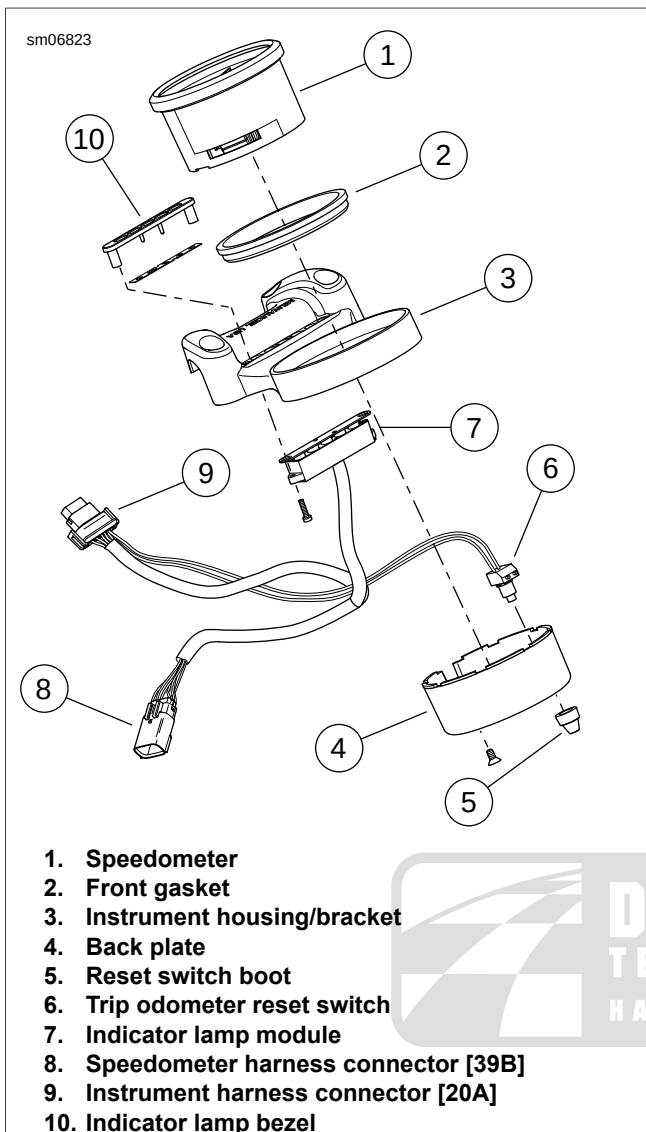

Figure 6-5. Speedometer Components: XL 1200X
- **XL 1200X:** See Figure 6-5.